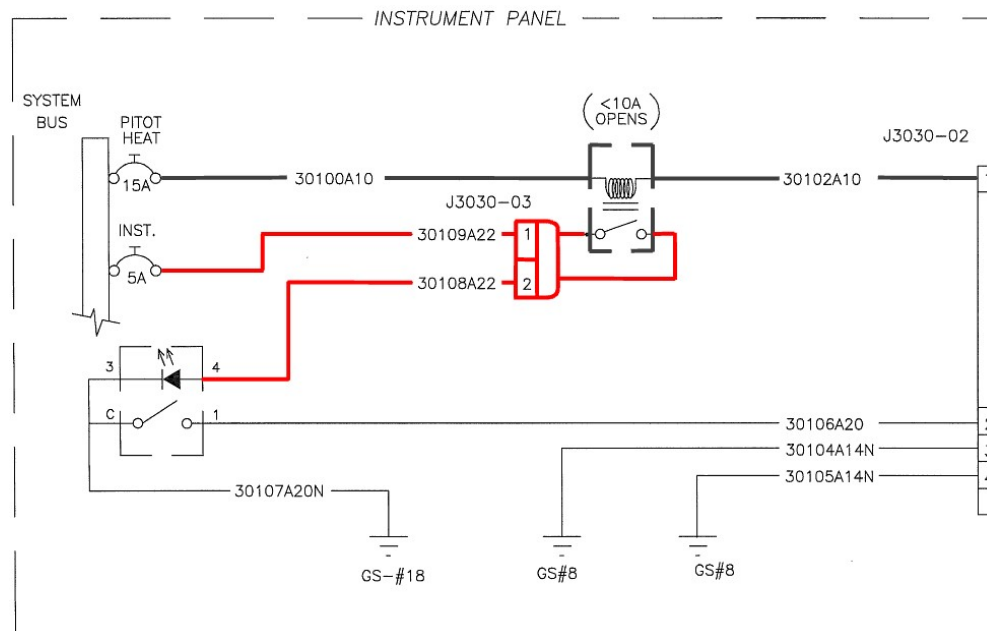

Figure 10: Instrument Panel Schematic highlighting the Current Monitor Connection
11.2.2 Follow the instructions below to install the J3030-03 connection with the Current Monitor, as shown in Figure 10.